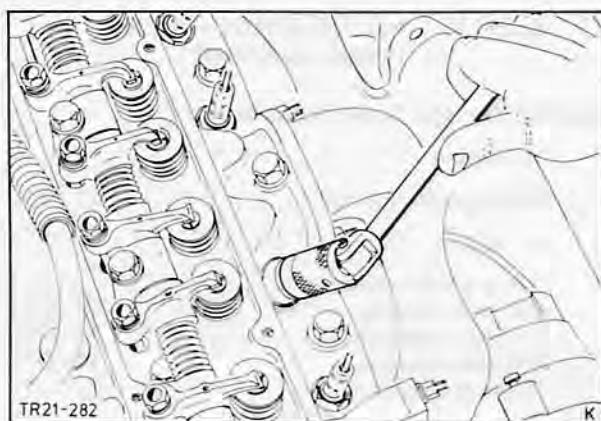

Fig. 179. Remove sparking plugs
3. Unscrew spark plugs, remove rocker shaft Fig. 179, together with valve stem seals and remove push rods.